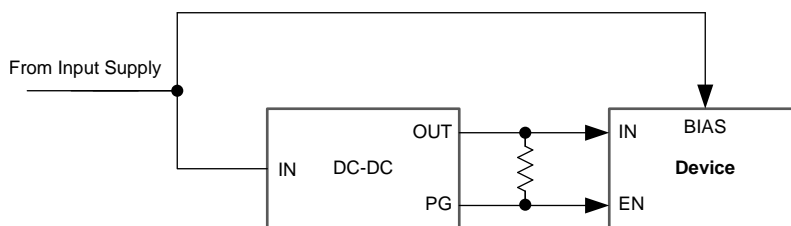

**Figure 46. Sequencing Diagram**
- $V_{BIAS}$  and  $V_{IN}$  can be sequenced in any order, as long as  $V_{EN}$  is tied to  $V_{IN}$  or established after  $V_{IN}$ , as shown in Figure 46